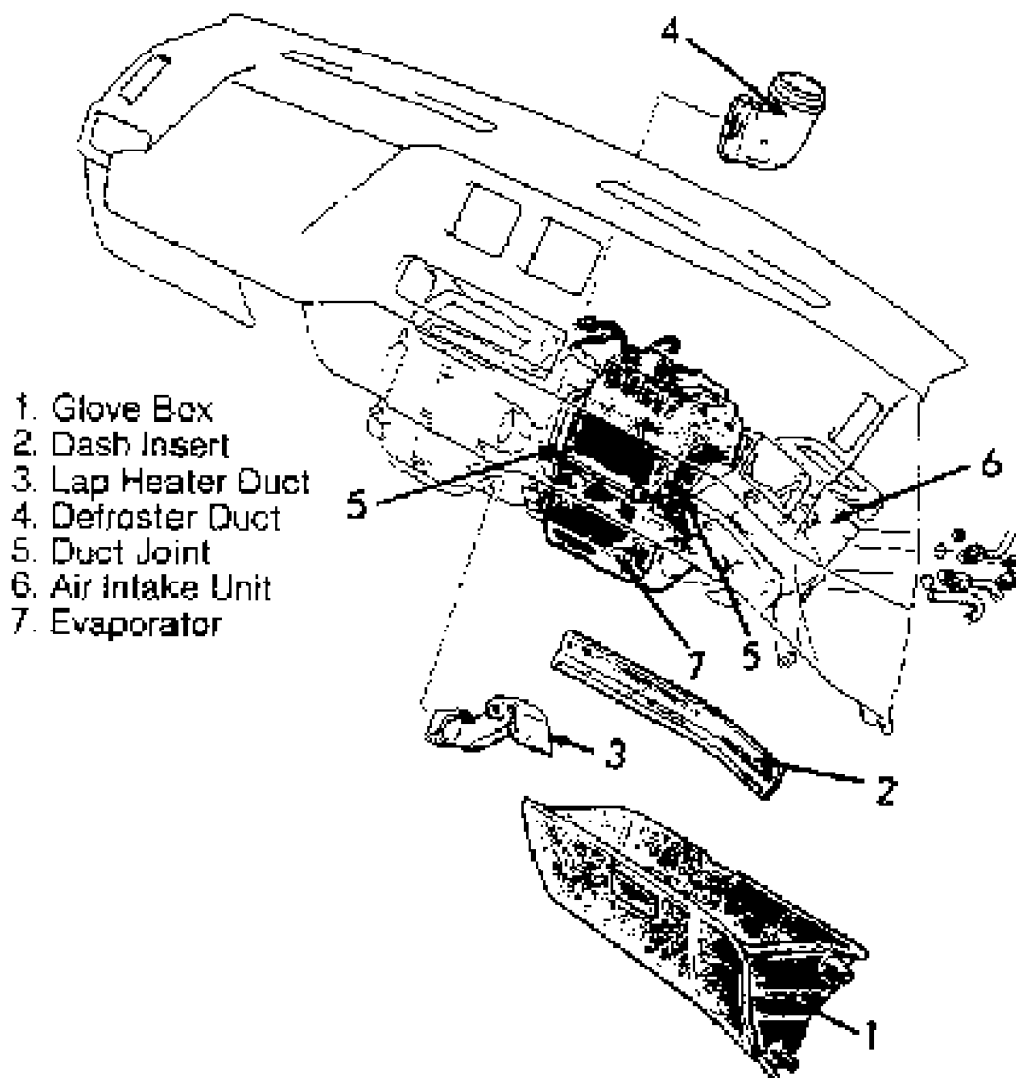

Fig. 11: Removing Evaporator Assembly (Colt Vista)
2) Remove lower glove box and dash insert (or reinforcement). See Fig. 11 Remove upper glove box and duct joint. Remove defroster ducts and duct joints from right side of evaporator. Disconnect A/C harness connector and main harness connector. Remove evaporator assembly. To install, reverse removal procedure.